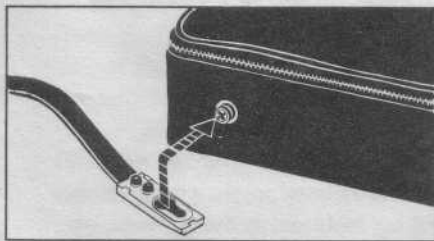

FIG.5
1. Place large section of hole in clasp of strap over protruding stud in recorder. (Fig 5).